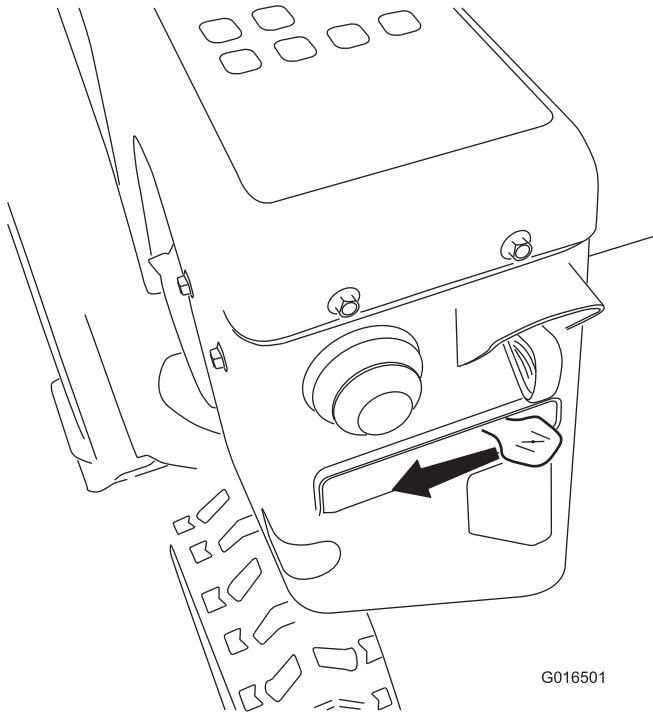

Figure 24
5. Move the choke to the CHOKE position (Figure 24).